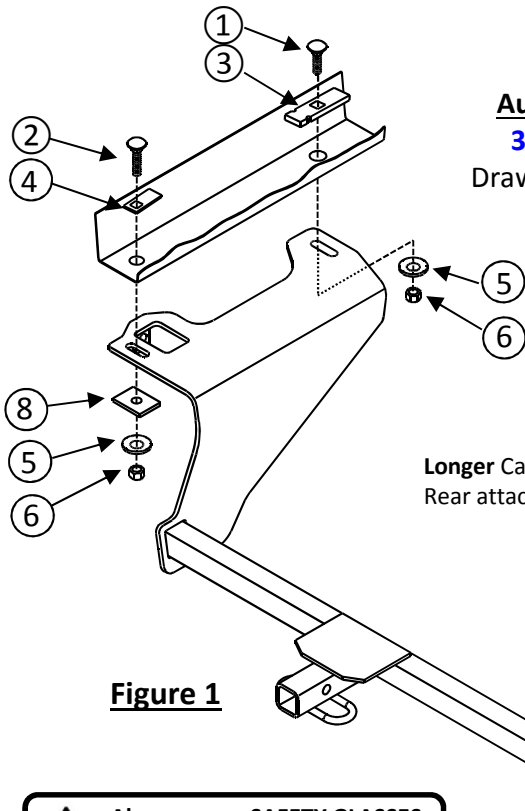

Figure 1
- Raise hitch into position** - Install 7/16 conical toothed washers and hex nuts onto forward carriage bolt attachments. Install spacer blocks (**item 8**), 7/16 conical toothed washers and hex nuts onto **rearmost** carriage bolt attachments, **See Figure 1**. Be careful not to push bolts back into frame. **NOTE:** Insert 7/16" flat washers (**item 7**) as needed on **rear attachments** between hitch and frame to take up space for vehicles with raised area for muffler hangers. On dual exhaust vehicles, it may be necessary to push hitch towards the passenger side as far as possible so that hitch bracket is up against vehicle trunk pan. This allows more clearance for exhaust on Driver's side. Torque fasteners to specifications below.
10. Raise hitch into position - Install 7/16 conical toothed washers and hex nuts onto forward carriage bolt attachments. Install spacer blocks (item 8), 7/16 conical toothed washers, and 7/16 hex nuts onto rearmost carriage bolt attachments (Fig. 1). Be careful not to push bolts back up into frame. **NOTE:** Insert 7/16" flat washers (item 7) as needed on rear attachments between hitch and frame to take up space for vehicles with raised area for muffler hangers. On dual exhaust vehicles, it may be necessary to push hitch towards the passenger side as far as possible so that hitch bracket is up against vehicle trunk pan. This allows more clearance for exhaust on Driver's side. Torque fasteners to specifications below.